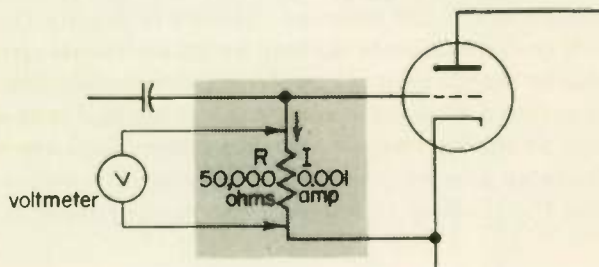

Fig. 20
3. In transmitter circuits, suitable d-c operating voltage (called the grid bias voltage) between grid and cathode is often obtained from a resistor, R in Fig. 20, connected between grid and cathode. If R is 50,000 ohms and a 0.001-amp direct current flows through it as shown, then the d-c bias voltage between grid and cathode, as read by the voltmeter, is (a) 50 volts. The current direction is indicated by the arrow in the drawing. Remembering that current flows from (b) NEGATIVE to POSITIVE, the voltage developed by the tube that causes the current to flow is positive at the (c) top bottom of the resistor and negative at the (d) top bottom.